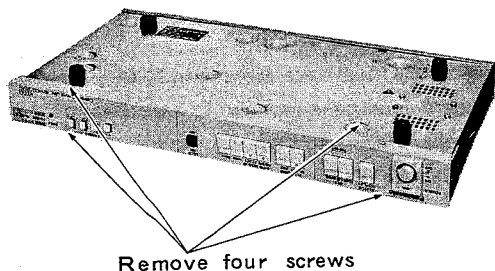

Fig. 2-2
- Remove four screws fixing the front panel and remove the front panel. (Fig. 2-2)